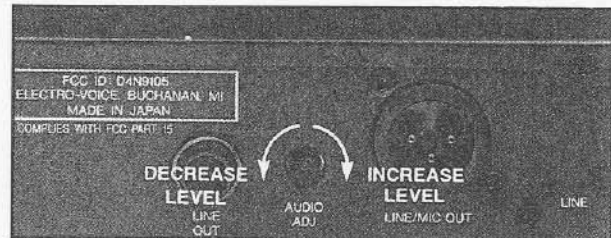

Figure 3 - Adjust Audio Output Level, Rear Panel
- 6) **Turn the "AUDIO ADJ" control on the receiver rear panel to the "2:00" position (see Figure 3).** Begin with the control in this position; after you have adjusted the transmitter level, you may need to readjust the "AUDIO ADJ" control.